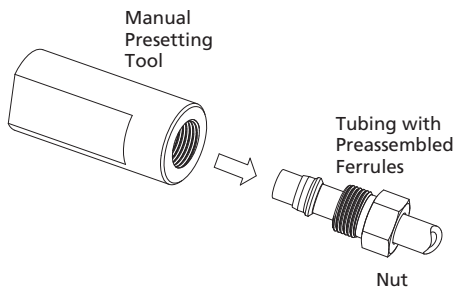

Fig.7
5. Loosen the nut and remove the tubing with preassembled ferrules from the manual presetting tool (Fig. 7).